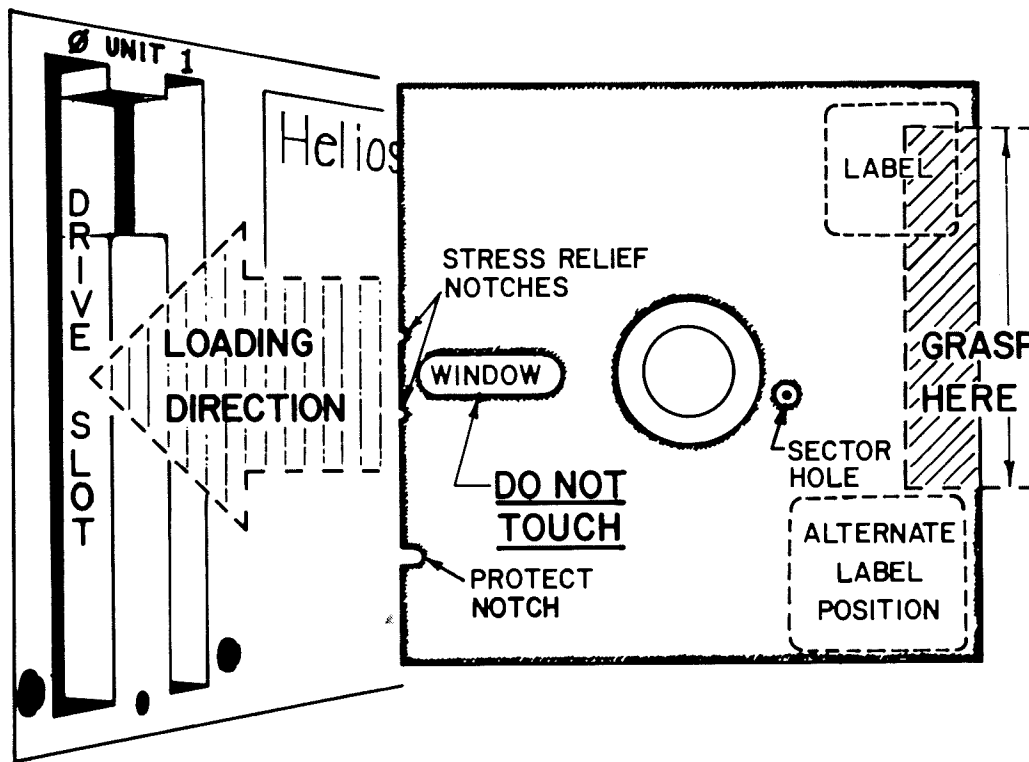

Fig. 3-2. Diskette Orientation for Loading
Use *only* diskettes approved by Processor Technology. Ask your dealer for a list of approved diskettes. The diskette is 20 cm in diameter (eight inches). It is the hard-sectored type which must have 32 sector holes (plus one index hole), which are visible through the small hole near the spindle hole. (Refer to Fig. 3-2, Diskette Orientation for Loading.)
4) Grasp the diskette on its edge opposite the notched edge (opposite head access slot.) (Refer to Fig. 3-2, Diskette Orientation for Loading.)